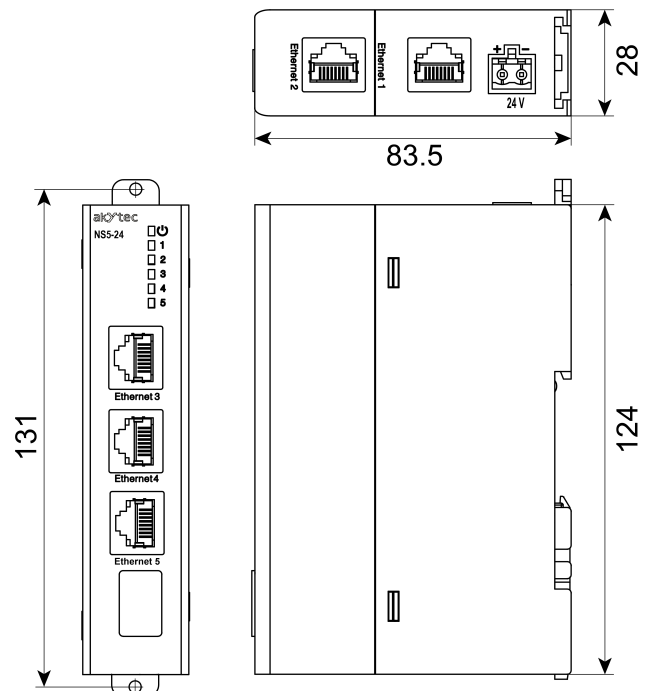

Fig. 2 – Dimensions
1. Ensure the sufficient space for mounting the device and the cables (see fig. 2).
2. Make mounting holes on a vertical surface in accordance with dimensions (see fig. 2).